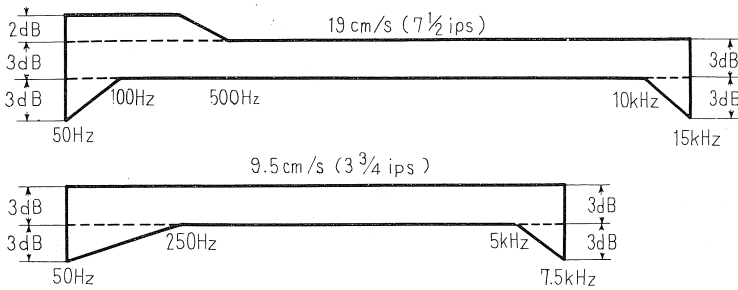

Fig. 28
2. Response deviation should be within the range shown in Fig. 28.